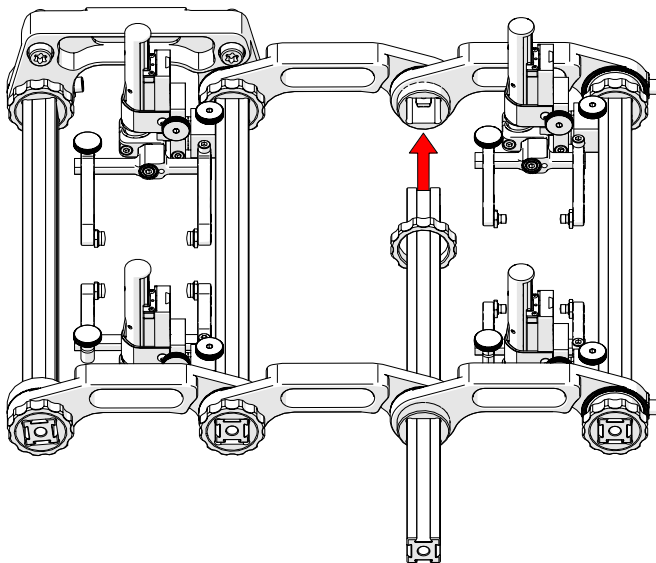

Fig. 147 - Mount probe holder frame
9. Slide the frame bar into the dovetail grooves (Fig. 147).